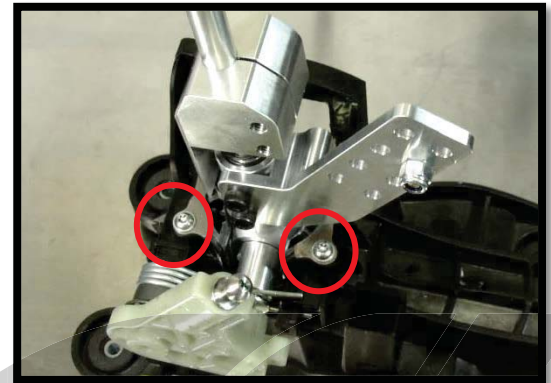

Figure 5f
- i) Replace the Metal Retaining Ring and fasten it down with the two (2) T-20 Torx screws (red circles in Figure 5f).